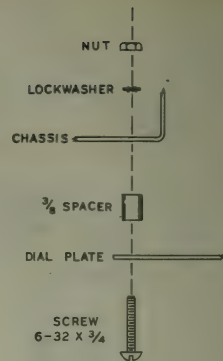

Figure 11
- (✓) Install the dial plate with the small pulleys inward. Use 6-32 x 3/4 screws and nuts with #6 lockwashers under the nuts. Use 3/8" spacers on the screws between the dial plate and the chassis. See Figure 11.
- (✓) Note numbering of the terminals on the volume control and connect Spirashield pigtail to VC1 (S). This is the shielded lead that connects to terminal strip CC.